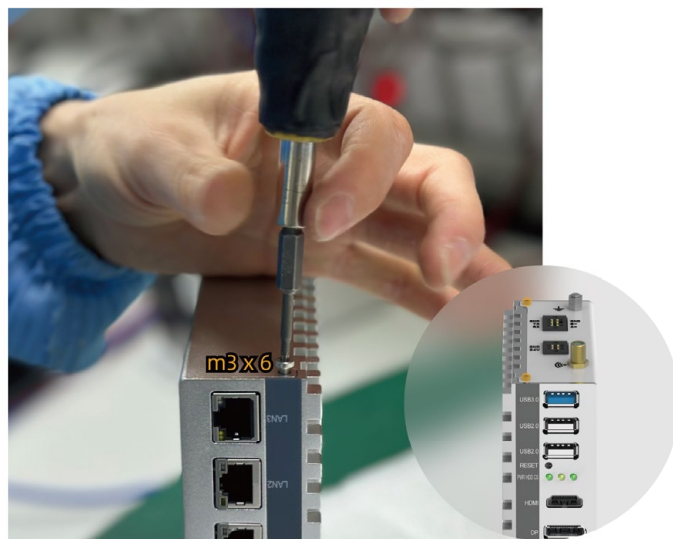

Figure 3-2-1
- ① Please place the product horizontally first, cut off the power supply and unplug all interfaces.
- ② Remove four studs from the outside of the product (Figure 3-2-1), and gently remove the shell to see the internal circuit board structure.